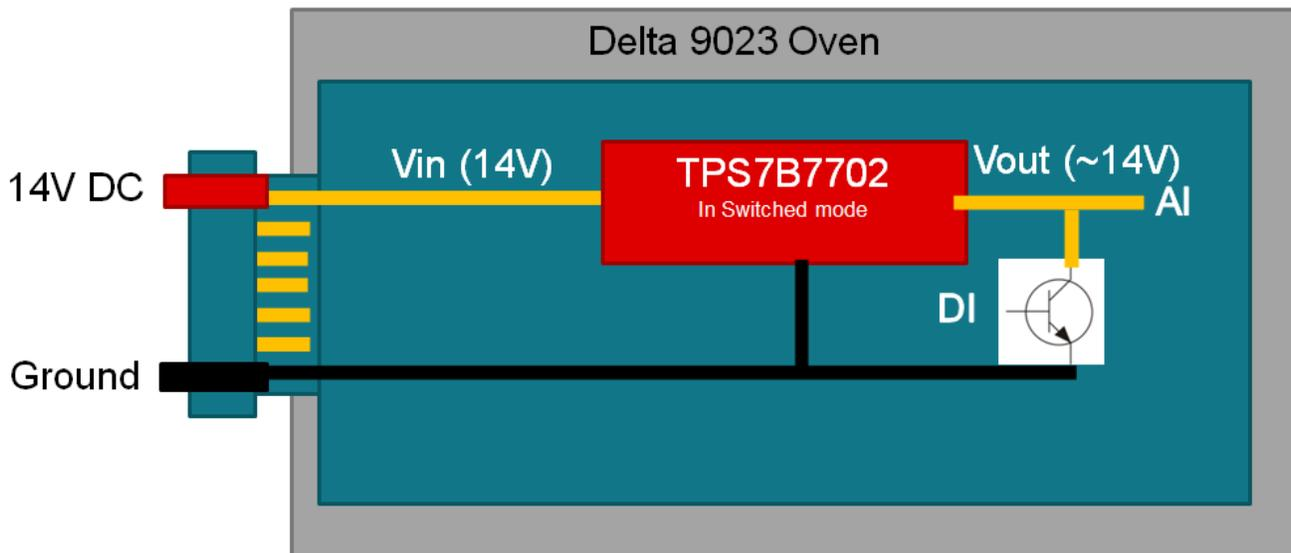
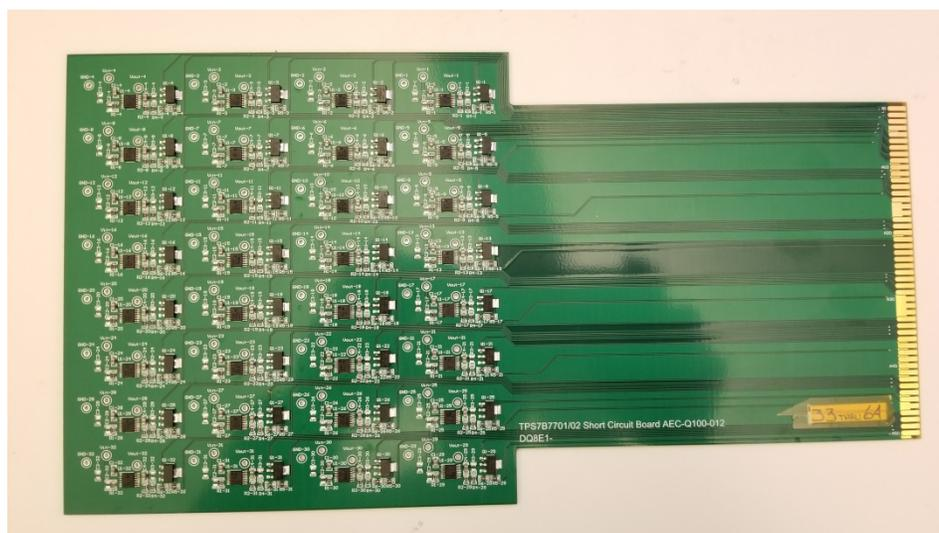

Figure 1. Boards With 32 Sites in an Oven Connected Through an Edge Connector
Figure 2. PCB Board With 32 Sites
Figure 2 shows the edge board with 32 sites in use. Figure 1 shows a general diagram of how the board is set up in the oven. To create the short-circuit condition, a FET has been used at each site to short V_{out} to ground, which is being controlled with digital output (DI) channels from a Data-Acquisition-Card (NI USB-6363). An analog input (AI) channel has been used to measure the output of each individual site and collect output voltage read points.